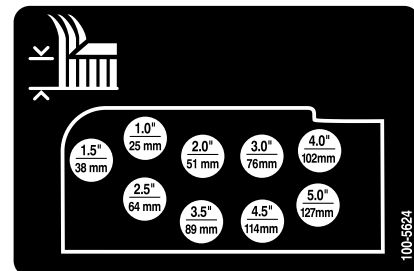

Figure 17
9. Mount the height-of-cut chains to the desired height-of-cut hole with the clevis pin and hairpin cotter (Figure 17).